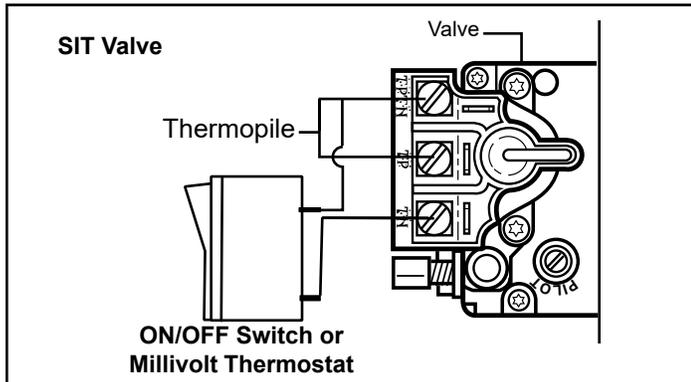

Figure 2.7 - Install wiring to switch before connecting to valve.
3. Attach wires to valve terminals, Figure 2.7.